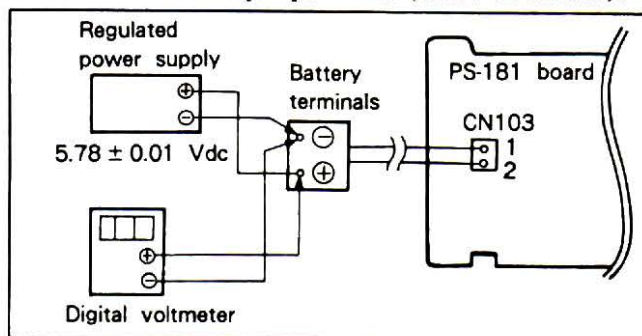

Fig. 8-3.
- 1) Connect the stabilized power supply and the voltmeter as shown in Fig. 8-3.
- 2) Connect Pin ① (TEST B) and Pin ② (COM) of CN017 with a jumper wire (TEST 2 MODE).